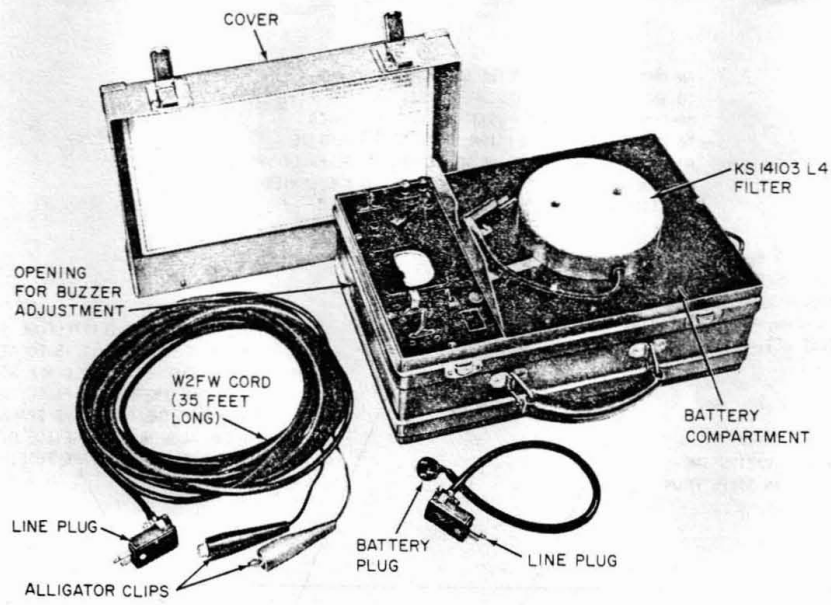

Fig. 1—KS-14103 L5 Test Set
**3.02** The KS-14103 L5 test set equipped with the KS-14103 L4 filter is shown in Fig. 1. The overall dimensions of this set are 7-3/8 inches deep, 11-3/8 inches wide, and 17-1/4 inches long.